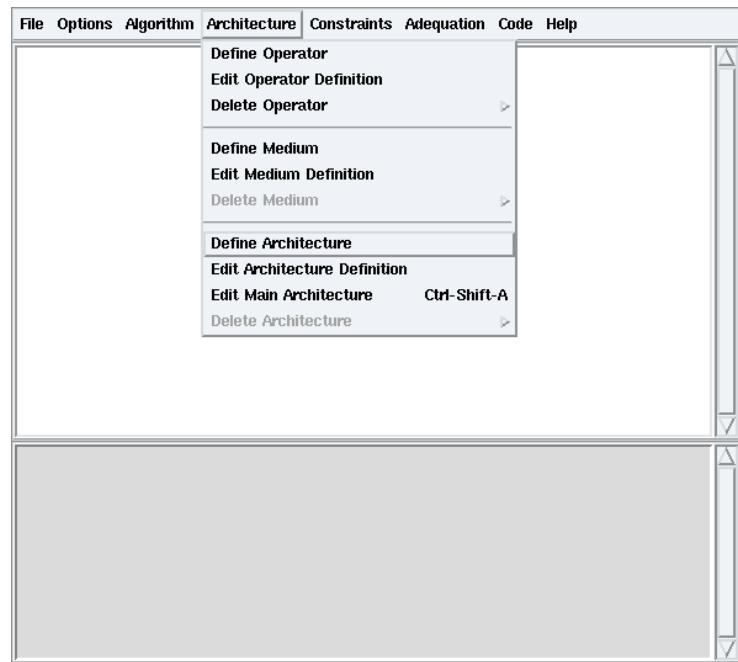

Figure 1.14: **Architecture / Define Architecture**
- from the main window: **Architecture / Define Architecture** (*cf.* figure 1.14) → dialog window: type ArchiOneOperator then click **OK** → definition window;
- from the main window: **Architecture / Define Architecture** (*cf. figure 1.14*) → dialog window `ArchiSamPointToPoint` → definition window;
- from the main window: **Architecture / Define Architecture** (*cf.* figure 1.14) → dialog window: ArchiSamMultiPoint → ArchiSamMultiPoint definition window;
- from the main window: **Architecture / Define Architecture** (cf. figure 1.14) → dialog window ArchiRam → ArchiRam definition window;